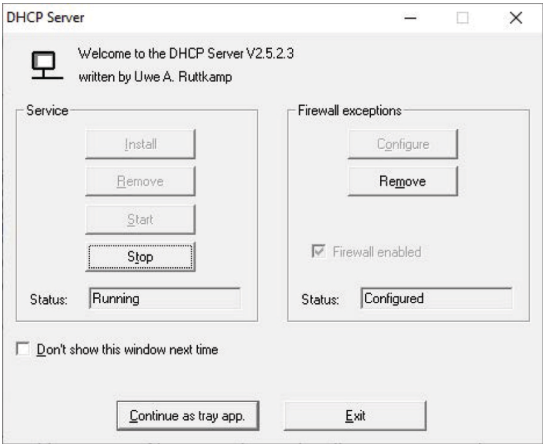

Figure 10. DHCP Server Configuration
- 5. In the **DHCP Server** window, the status must change to **Con-figured** and **Running**, as shown in Figure 10.